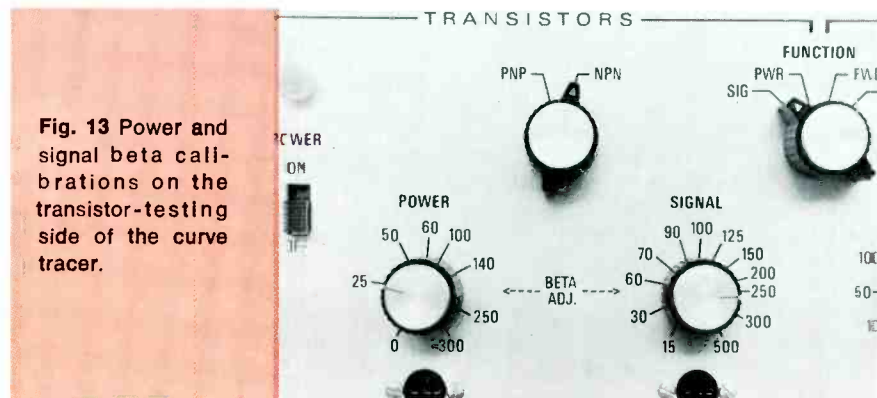

Fig. 13 Power and signal beta calibrations on the transistor-testing side of the curve tracer.
- Measure the DC beta by turning either the POWER or SIGNAL beta knob (according to which type was selected by the FUNCTION switch) until the total height of the pattern (meaning all curves) is 8 divisions, as shown in Fig. 12. Use centering controls as needed. Read the beta from the dial calibration, as shown in Fig. 13.